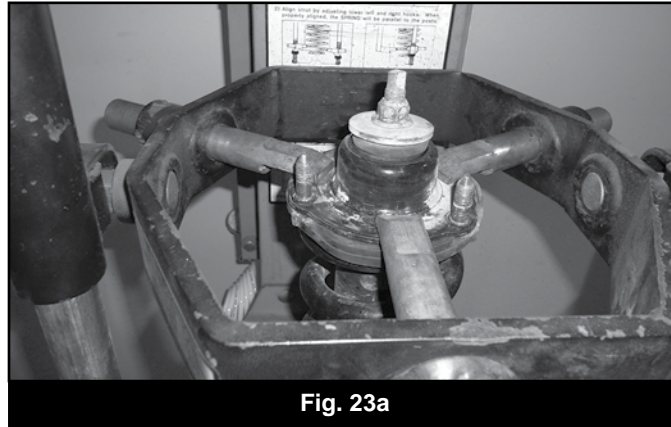

**Fig. 22**
42. Install new bump stop relocation brackets with new 10mm hardware. Align with existing hole and attach with 3/8" hardware. Install new bump stop into the relocation bracket with 3/8" serrated edge flanged nut. (Hardware is in bolt pack # 665), tighten all hardware to 35 ft-lbs. (Fig 22)